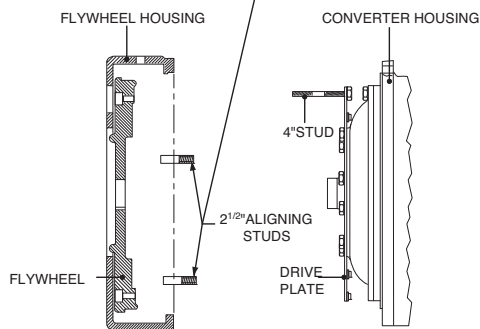

FIG. 2
- 3 Install two 63,50 mm (2.50") long transmission to flywheel housing guide studs in the engine flywheel housing as shown. Rotate the engine flywheel to align a drive plate mounting screw hole with the flywheel housing access hole (Fig. 2).
- 7 Install drive plate attaching screw and washer. Snug screw but do not tighten. Some engine flywheel housings have a hole located on the flywheel housing circumference in line with the drive plate screw access hole. A screwdriver or pry bar used to hold the drive plate against the flywheel will facilitate installation of the drive plate screws. Rotate the engine flywheel and install the remaining seven (7) flywheel to drive plate attaching screws. Snug screws but do not tighten. After all eight (8) screws are installed. Torque each one 35 to 39 N.m. (26-29ft.lbs.). This will require tightening each screw and rotating the engine flywheel until the full amount of eight (8) screws have been tightened to specified torque.